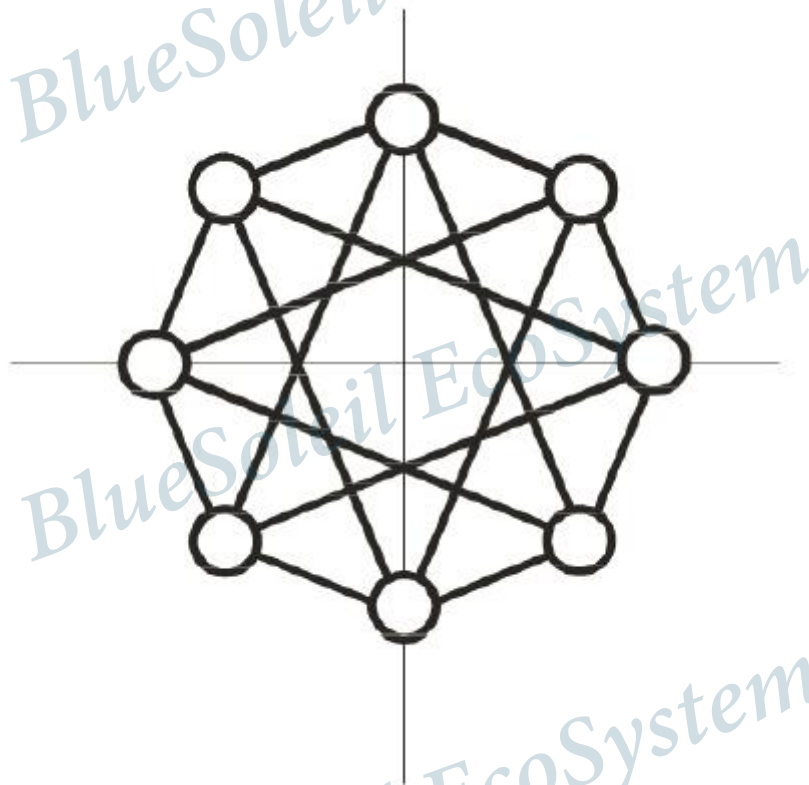

Figure 28 8DQPSK
- 8-state Differential Phase-Shift Keying. See Figure 28 below.